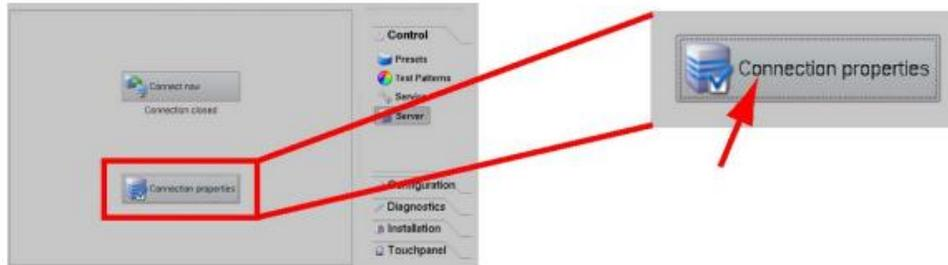

Figure 21 Barco touch panel settings [Connection Properties].
1. On the Barco touch panel, select **[Control]** → **[Server]**. The new window **[Connection Properties]** will appear as shown in Figure 21.